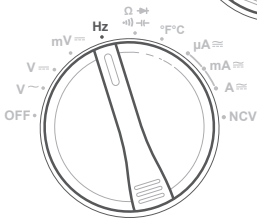

Figure 9.1
1. Turn the rotary dial to the **Hz** position. [Figure 9.1]